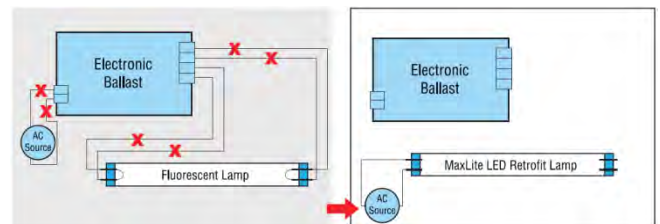

Figure 3. Retrofit with One Lamp
8. Make sure all sockets are replaced and wired accordingly to the appropriate wiring diagram (**Figure 3, 4, 5, 6**).